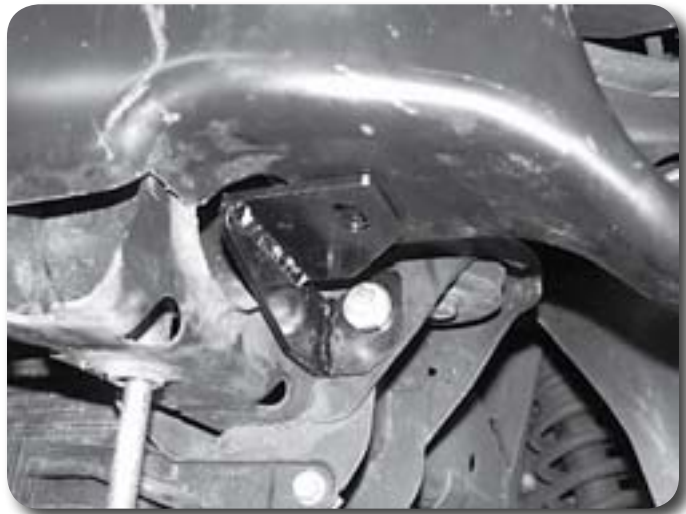

Figure 26
47. Loosely install the provided lower bumper brackets on the frame using the holes that were drilled out earlier. The brackets are side specific, with tabs pointing toward the outside of the vehicle when installed. Attach the brackets to the frame with 7/16" x 1" bolts, nuts and 3/8" USS washers. With the brackets snug against the bottom of the bumper, torque hardware to 45 ft-lbs **Figure 26**.
48. Using the slot in the new lower bumper brackets as a template, **Figure 26** drill a 7/16" hole in the bumper and fasten the brackets to the bumper with 7/16" x 1" bolts, nuts and 3/8" USS washers. Torque hardware to 45 ft-lbs.